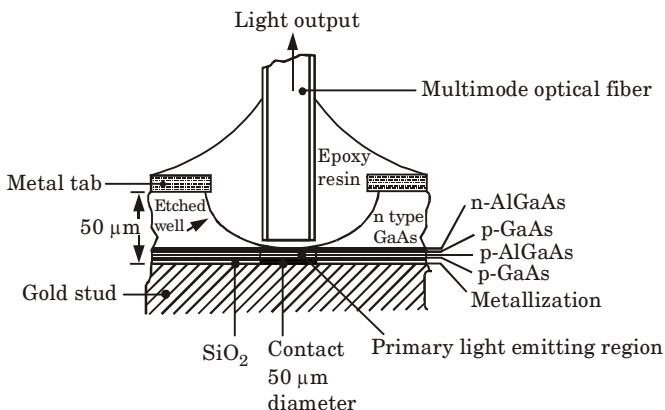

Fig. 3.4.3. The structure of an AlGaAs DH surface-emitting LED (Burrus type).
1. The structure of a high radiance etched well DH surface emitter for the 0.8 to 0.9 μm wavelength band is shown in Fig. 3.4.3.